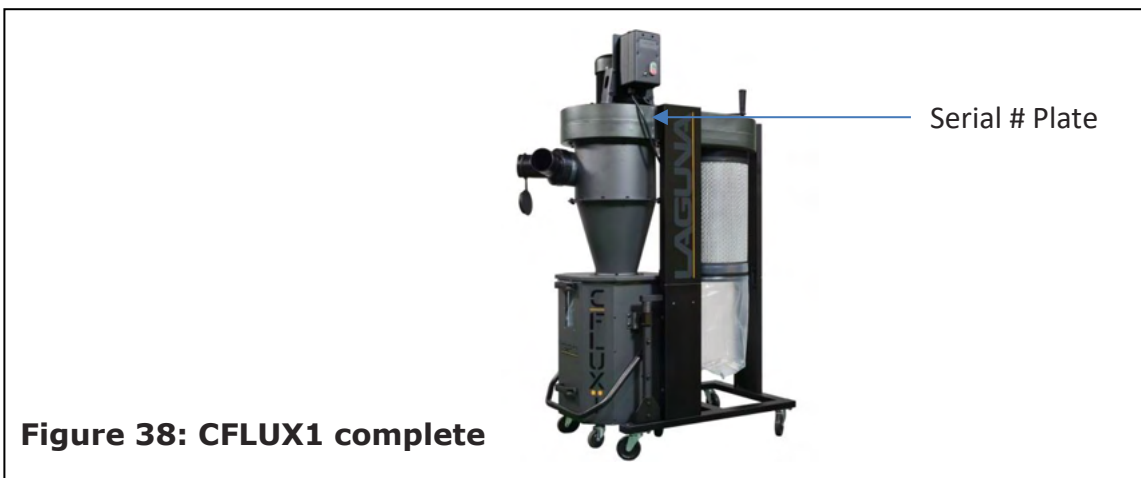
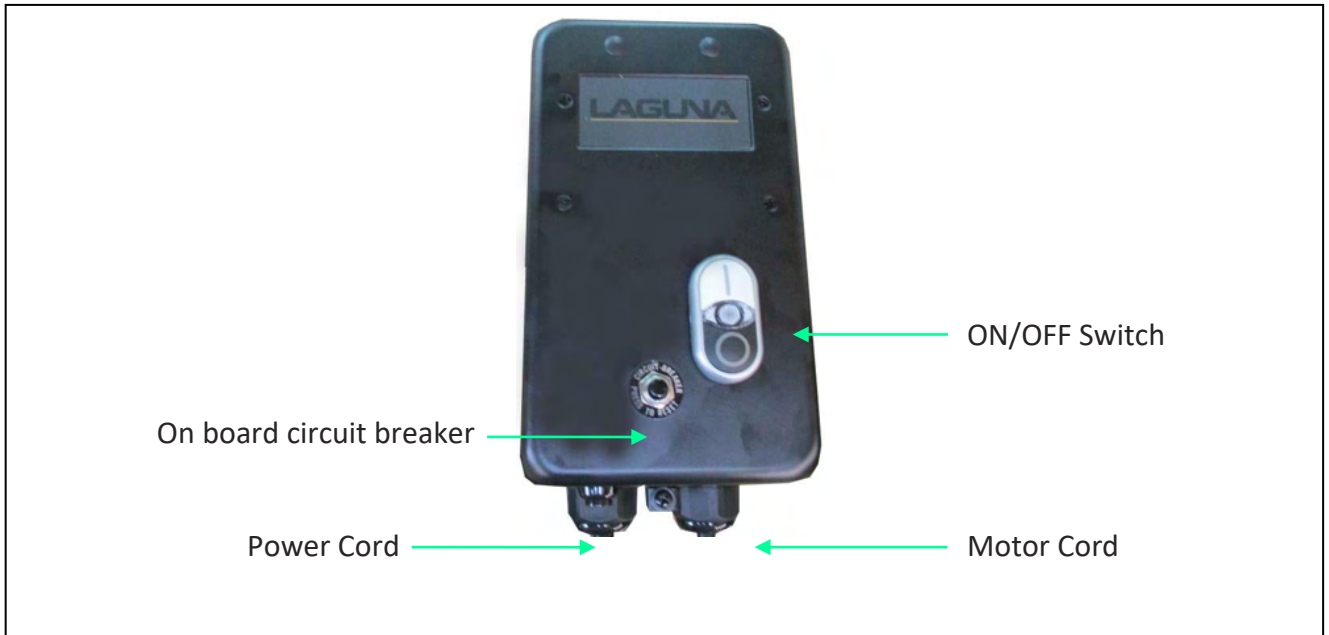

Figure 38: CFLUX1 complete
Figure 39: Manual Switch with High Frequency Remote Control Receiver
4. To start, press the ON button on either the ON/OFF switch (Fig. 38) or remote control, (Fig. 39).
5. To stop, press the OFF button on either the ON/OFF switch (Fig. 38) or remote control, (Fig. 39).